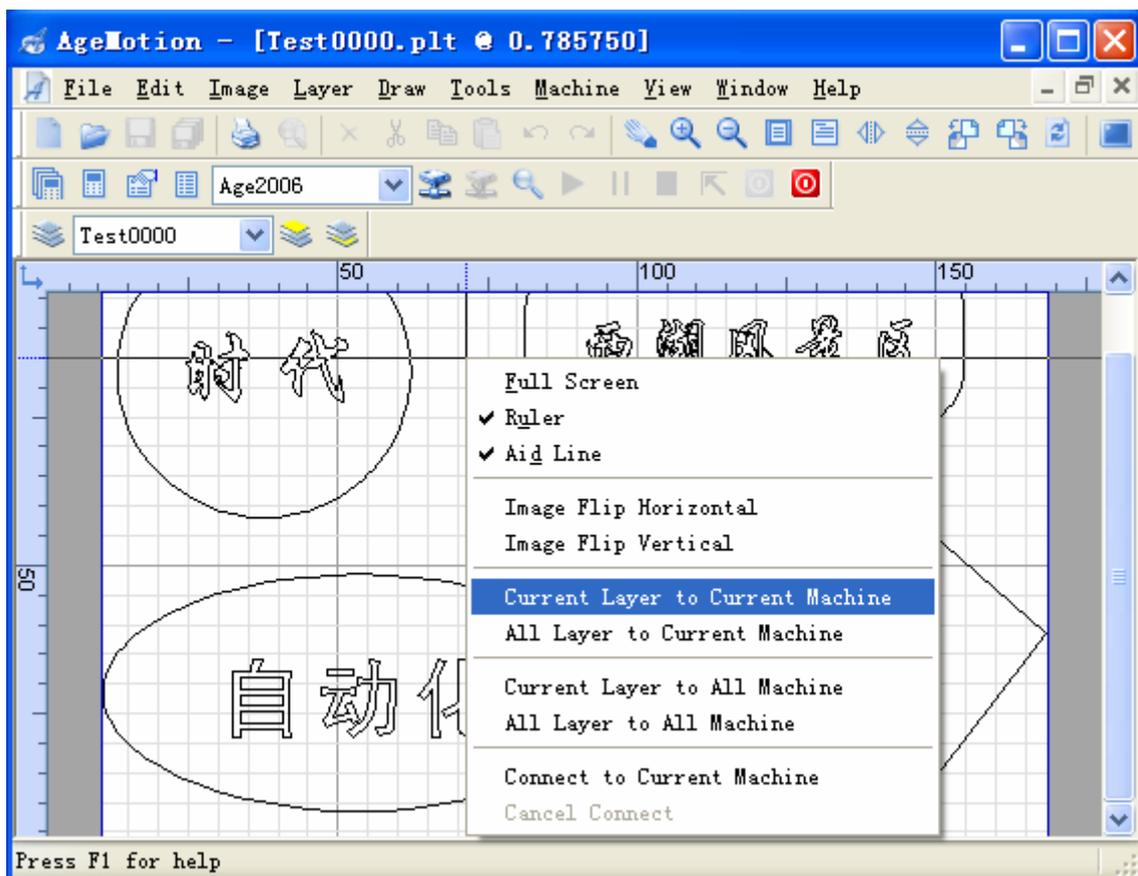

Figure 6-16 Add Task
5. Click the mouse right button in the view, choose the current layer to current machine option in the pop menu to add a new mission (see Figure 6-16), if the graph file has many layers, please choose the all layers to current machine option to add all the missions.